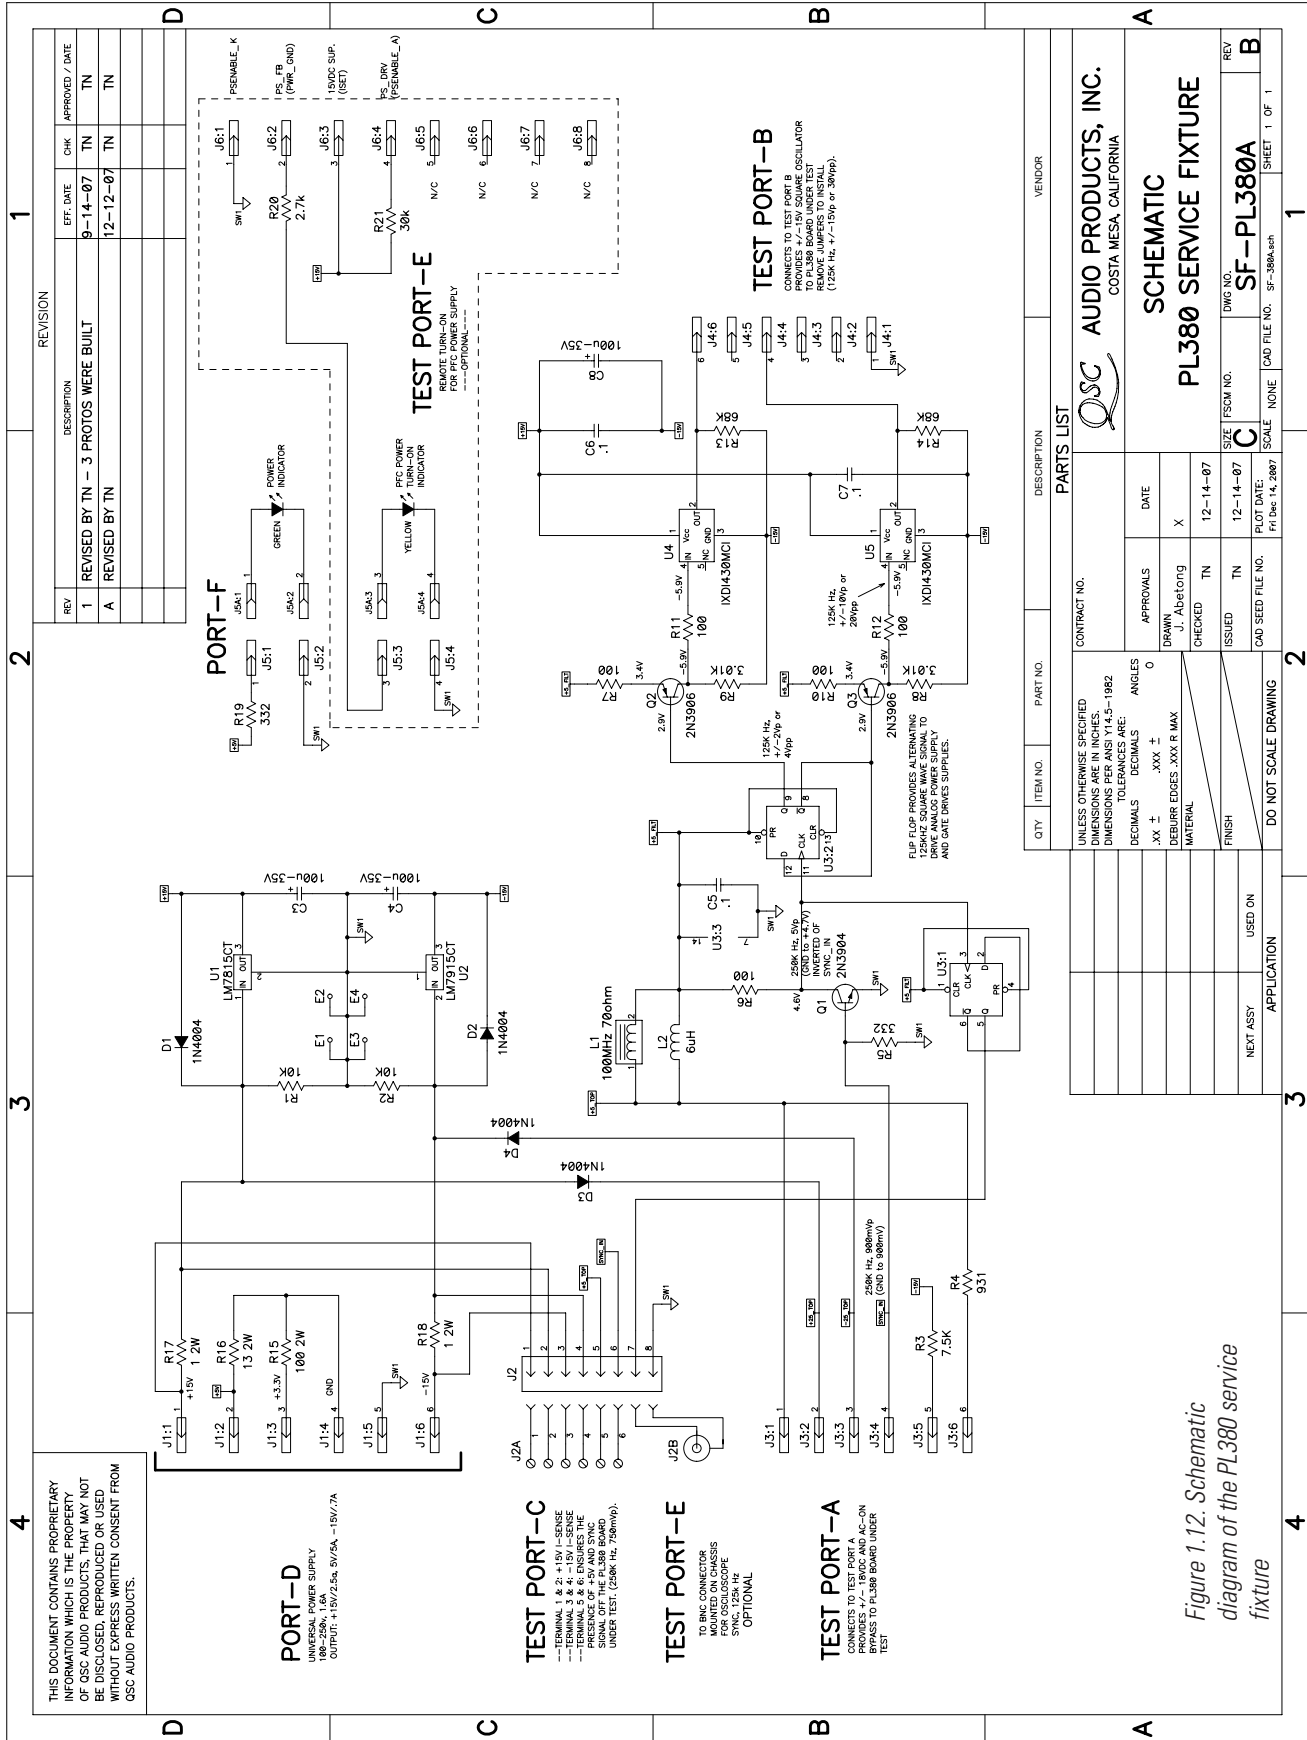

Figure 1.12. Schematic diagram of the PL380 service fixture
Figure 1.12 shows the schematic for the PL380 service fixture. The fixture is available for purchase from QSC Technical Services.
9. Connect the service fixture's two hookup leads to the corresponding test points. Make sure you orient the housings correctly (as shown in Figure 1.12) when you plug them onto the test point headers. As the lengths of the leads suggest, the long one goes to Test Point A and the short one to Test Point B.